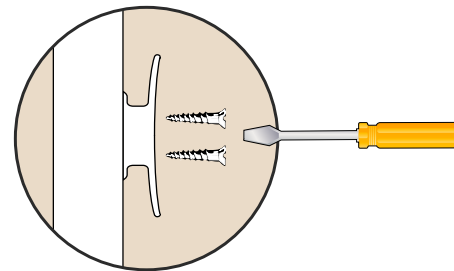

Fig 6,
7. Attach the cleat to the pole in the pre drilled position using the screws provided. (See Fig 6)